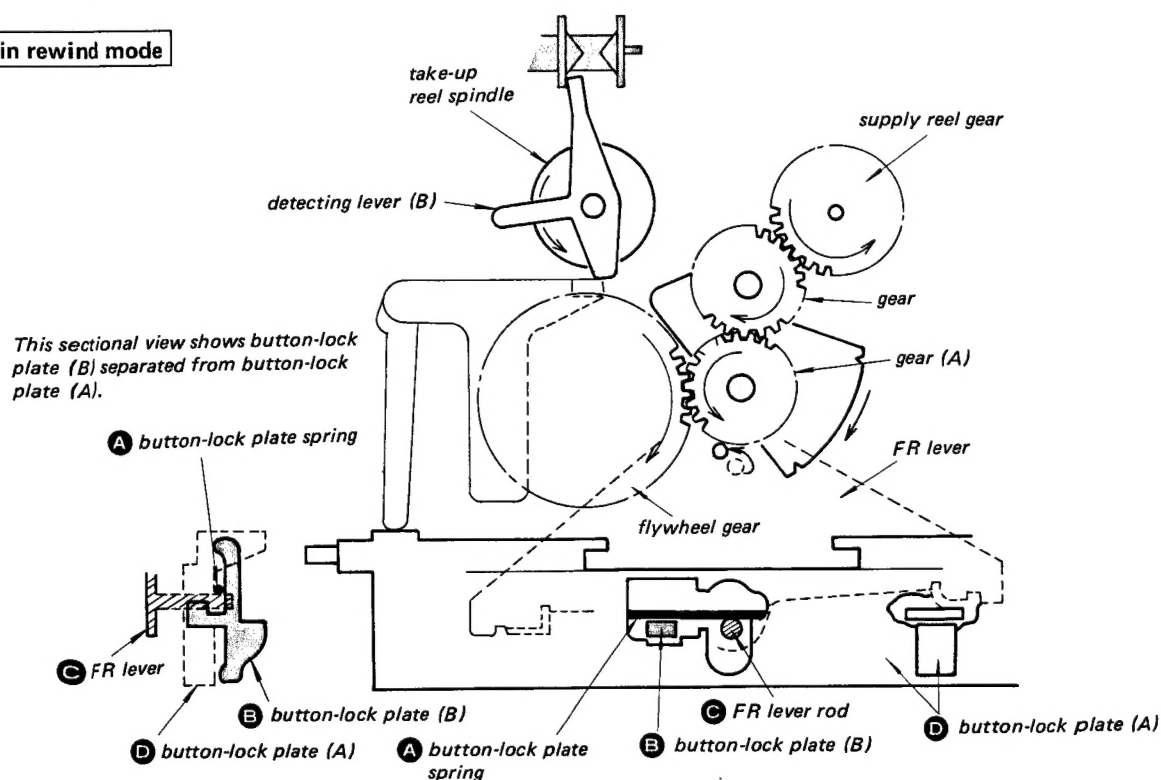

Fig. 1-4.
(See Fig. 1-4.)
**Note:** When these two buttons are pressed at the same time, both forward and rewind modes are initiated. However, the auto-play lever prevents the pinch roller from pressing against the capstan. As a result, rewind mode will take priority. (The auto-play lever is not shown in Fig. 1-4.)